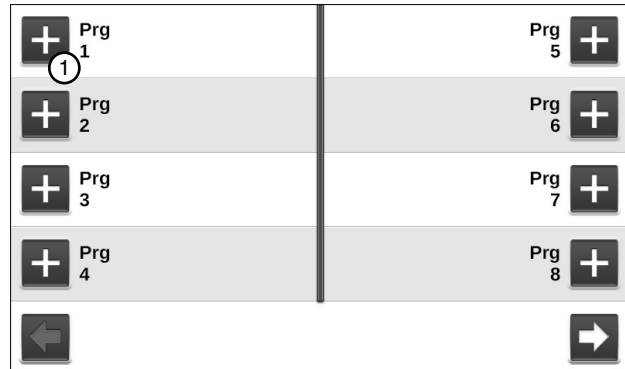

Figure 140-1 1. New Program
1. Push **Menu**, **Programs**, and **Step Programs** to view the Step Programs screen. Refer to Figure 140-1.